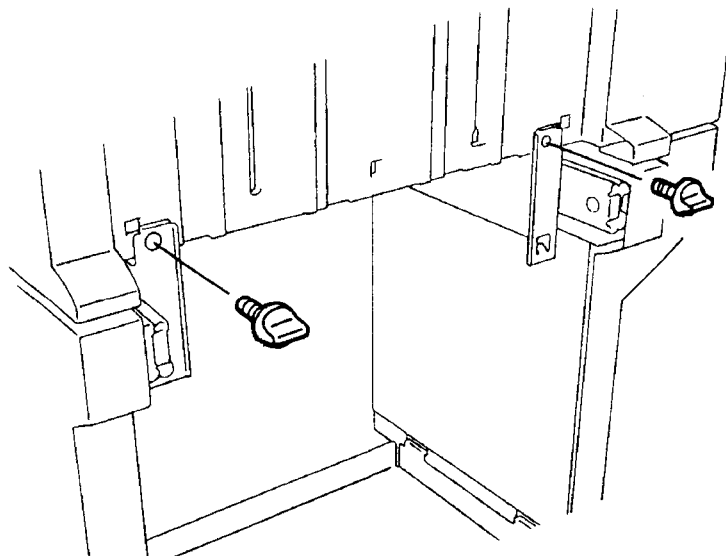

Figure 3 Removing Thumbscrews
4. Remove the Thumbscrews (2) (Figure 3).